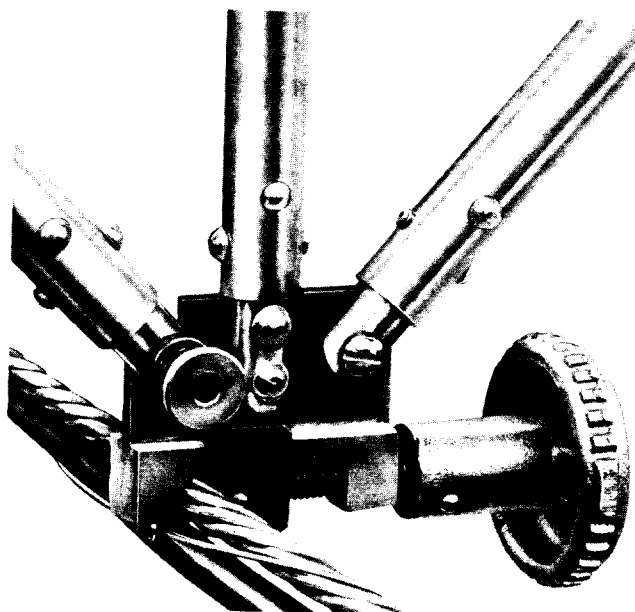

Fig. 4—Clamp Assembly
2.06 The frame of the tent consists of three aluminum alloy bows which are hinged at the corners to allow the legs to be folded either when storing the tent or preparing it for placing. The legs of the bows are attached to a clamp assembly (Fig. 4). The legs of the center bow are rigidly attached to the clamp assembly while the legs of the two outer bows are hinged to the clamp assembly to permit these bows to be folded against the center bow when required. One of the side bows may be detached from the clamp assembly to permit the tent to be mounted on the lower strand of multicable leads. The bow can be detached from the clamps, passed over the upper cable, and reattached to the clamps, so that the upper cable passes through the test between the center bow and the detachable bow of the frame.